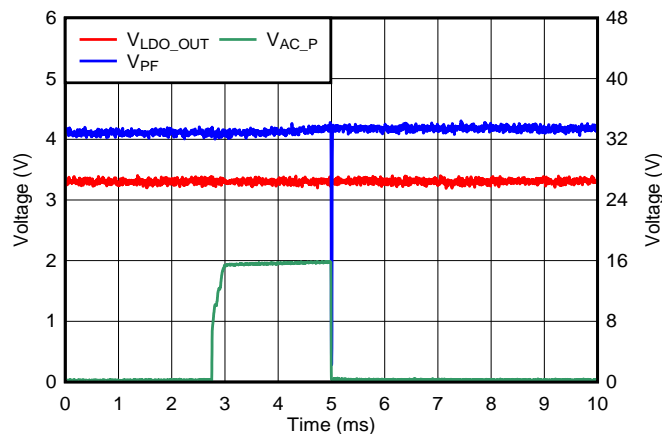

Figure 6. PF Signal Glitch
In Figure 6, the power-fail detect (PFD) trace and resistor divider was placed close to the AC_P pin and as a result the power-fail (PF) signal glitches whenever there is a shunt event; see the TPS7A78 Feature Description section for details on the device active bridge control. Figure 6 shows the PF signal glitch.